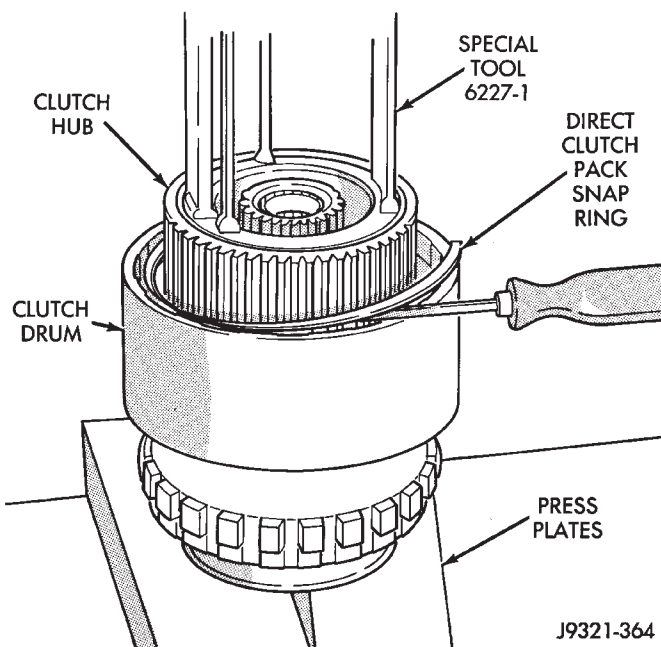

Fig. 263 Direct Clutch Pack Snap Ring Removal
(5) Remove direct clutch pack snap ring (Fig. 263).